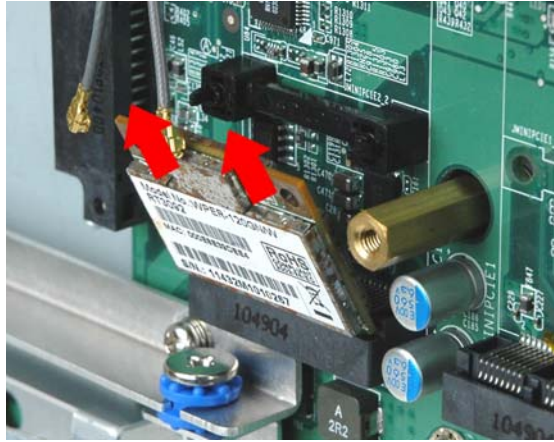

Figure 5-6: Removing the WLAN card
- Step 8:** Grasp the WLAN card by the edges and carefully pull it out of the socket (Figure 5-6).